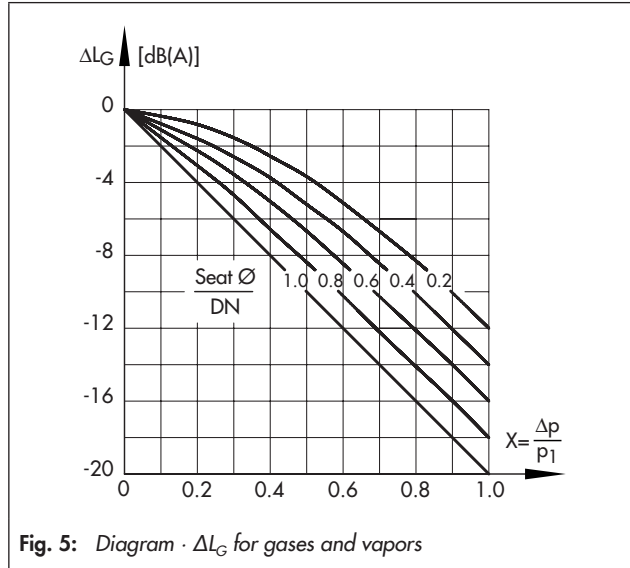

Fig. 5: Diagram · ΔL_G for gases and vapors
- ΔL_G · For gases and vapors: values according to Fig. 5